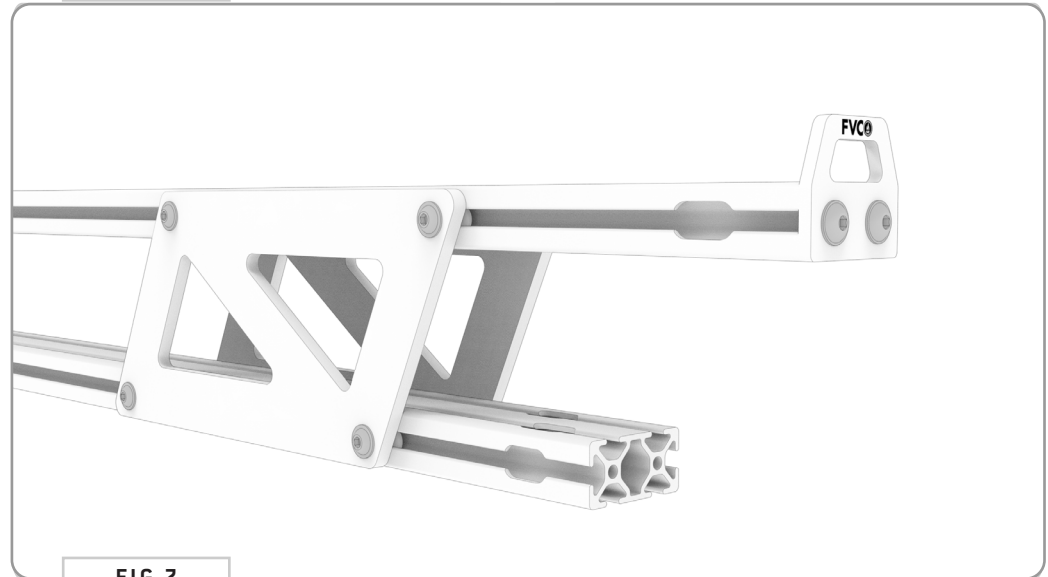

FIG 7
3.2 Attach High Bar to Crossbar: Take the assembled High Bar and position it against the surface of the rack's crossbar. Loosely attach using 1/4-20 x 0.5 Flanged Button Head Hex Drive Screws (FIG 7).